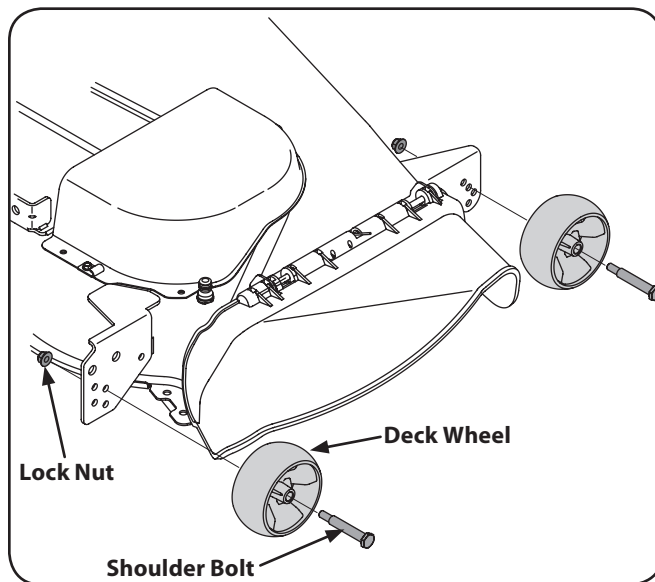

Figure 6-8
- b. Remove the deck wheels by removing the lock nuts and shoulder bolts which secure them to the deck. See Figure 6-8.